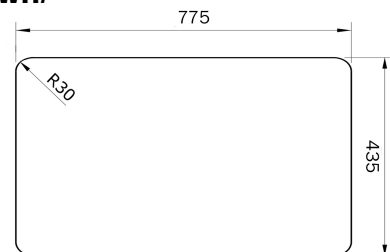

Fig. 1.18
CRUB4329WH/ (Fig. 1.18)
- The cut out details are shown in **(Fig. 1.12 - Fig. 1.18)** ensure perfect positioning of this product. The cutout template is also available online www.rangemaster.co.uk.